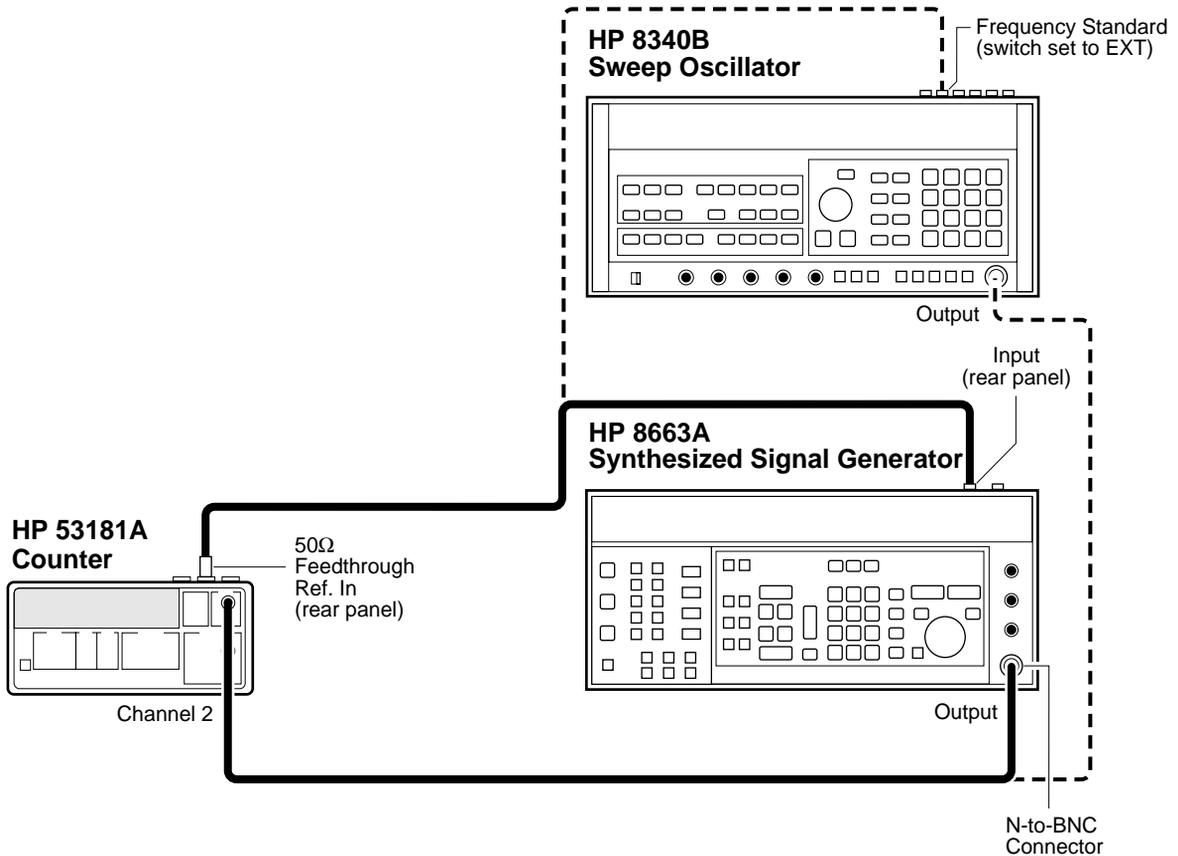

Figure 1-15. Option 015/030/050/124 Channel 2 Frequency Accuracy Test Setup
- 1 Connect equipment as shown in Figure 1-15.**
- 5 Disconnect the HP 8663A output from Channel 2 of the Counter, and connect the HP 8340B Sweep Oscillator output to Channel 2 of the Counter as shown in Figure 1-15.**